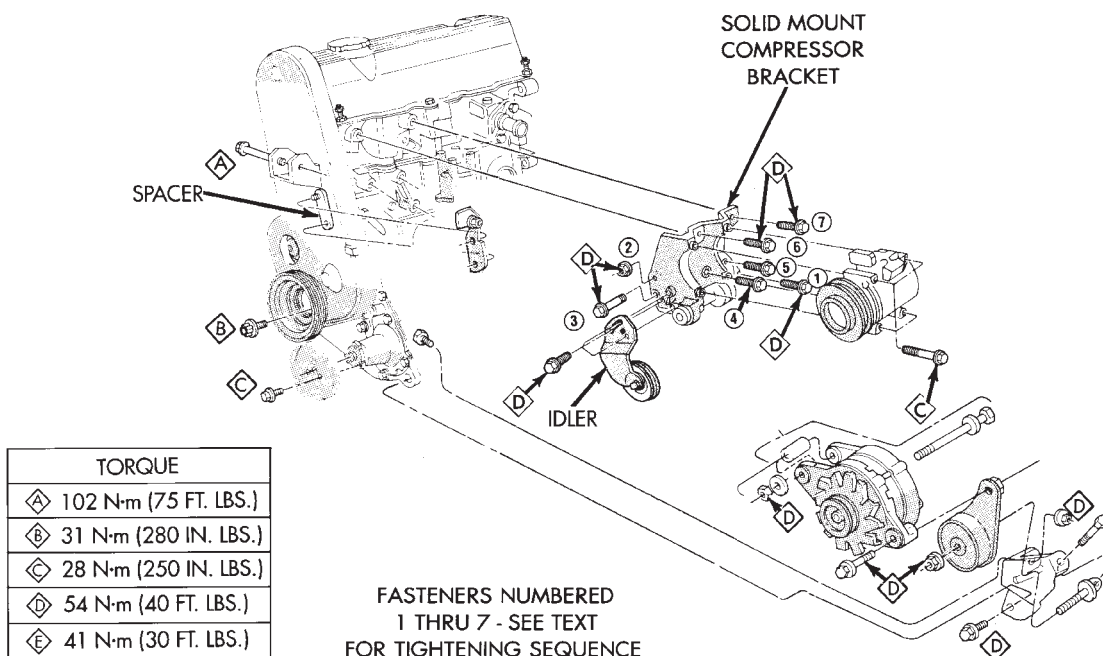

Fig. 7 Solid Mount Compressor Bracket 2.5L Engines
(1) Install bracket on front (#2 nut) mounting stud and slide bracket over timing belt cover into position.
(2) Loosen assembly bracket to engine fasteners (numbered #1 through #7 in Fig. 7).